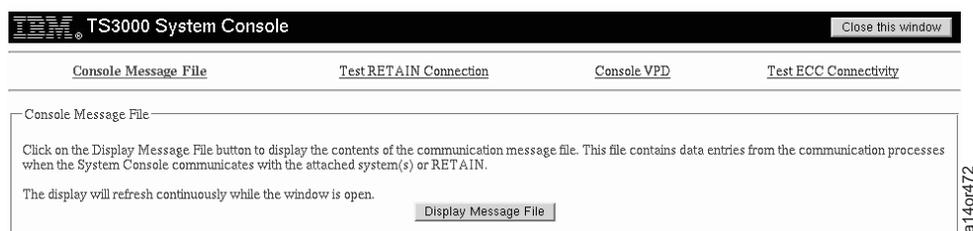
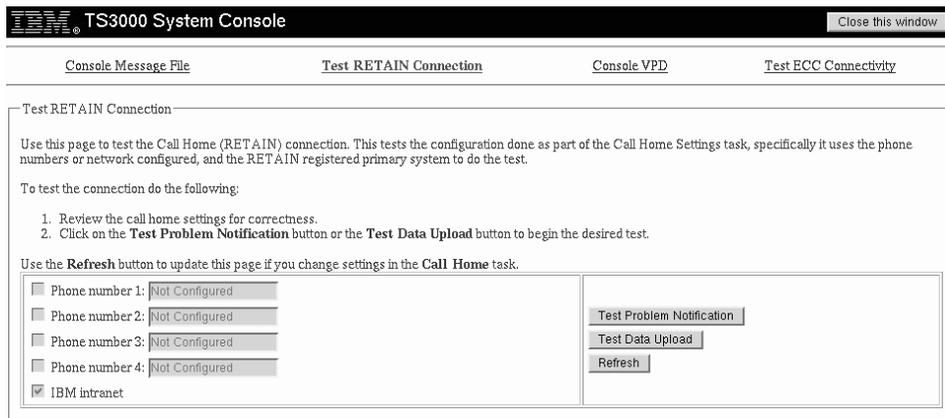

Figure 222. Console Message File Screen
Figure 224. Test RETAIN Connection Request Screen - As a Service Procedure
4. Click **Console Status**. You see Figure 222.
1. From the Console Message File screen shown in Figure 222, select **Console Message File**.
1. From the Console Message File screen shown in Figure 222 on page 168, select **Test RETAIN Connection**. You see Figure 224.
From the Console Message File screen shown in Figure 222 on page 168, select **Console VPD**. You see Figure 226. The VPD information is listed for you in the System Console Product Information box.